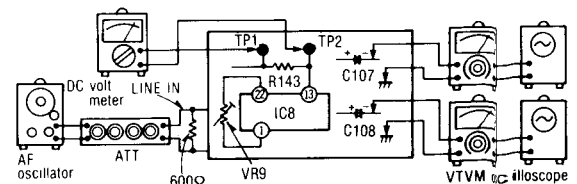

Fig. 20
1. Make the connections as shown in fig. 20 and apply $1\text{kHz} -27\text{dB}$ signal from LINE IN, and set the noise reduction selector to dbx tape position.